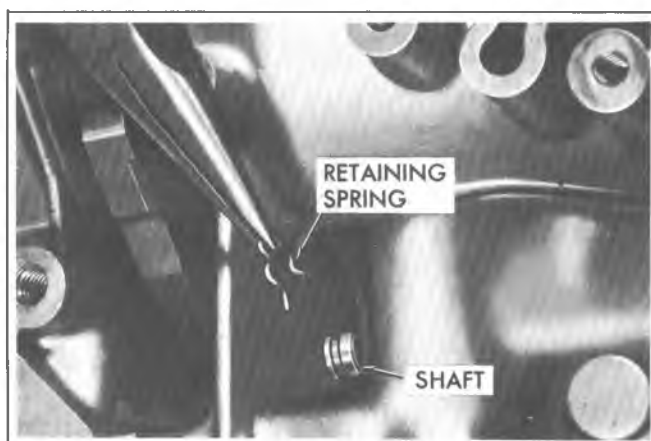

Fig. 7A-25C--Removing Parking Shaft Retaining Spring
5. Remove attaching screws and parking bracket (Fig. 7A-23C).